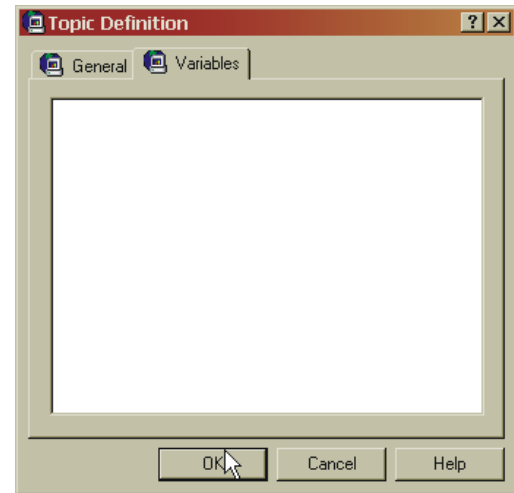

FIG. 200: TOPIC DEFINITION/VARIABLES PAGE
Step 11. Click on the Variables tab. The Variables page appears. (See Fig. 200) The Variables Page should be empty.